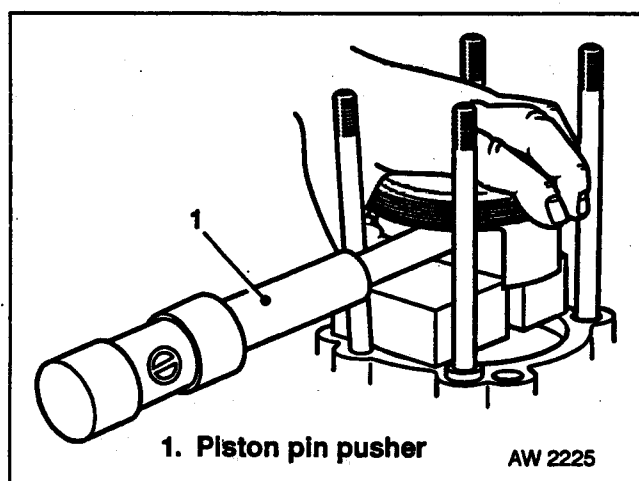

Fig 2.14 Piston Pin Removal
- b. Remove the piston pin using an appropriate pin pusher, then remove the piston – Fig 2.14 refers.